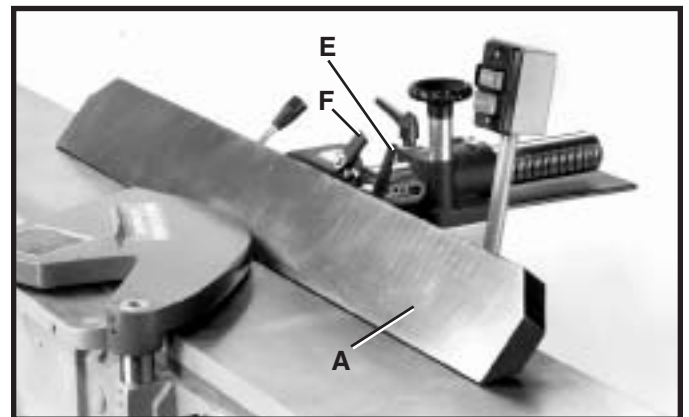
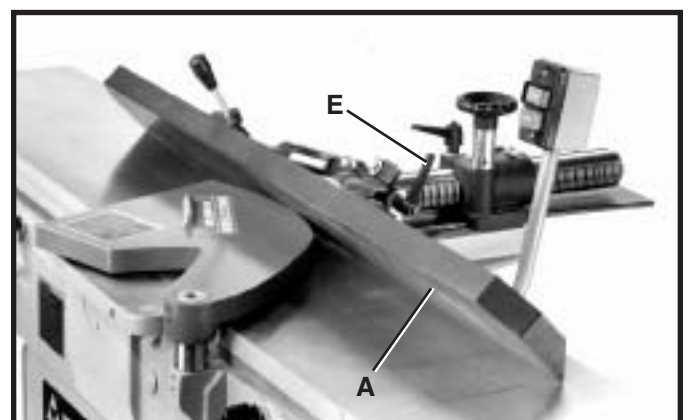

Fig. 20
Fig. 21
2. To tilt the fence (A) to the right, as shown in Fig. 20, or to the left, as shown in Fig. 21, loosen lock handle (E) move the fence to the desired angle and tighten handle (E) securely. **NOTE:** Handle (E) Figs. 20 and 21, is spring-loaded and can be repositioned by pulling out the handle and repositioning it on the serrated nut located underneath the hub of the handle. Also, when tilting the fence to the right (outward) as shown in Fig. 20, the stop (F) Fig. 20, must be rotated to the up position as shown. **IMPORTANT:** When cutting a bevel, we suggest that whenever possible the fence (A) be tilted toward the table, as shown in Fig. 21. The fence will then form a V-shape with the tables, and the work is easily pressed into the pocket while passing it across the knives.